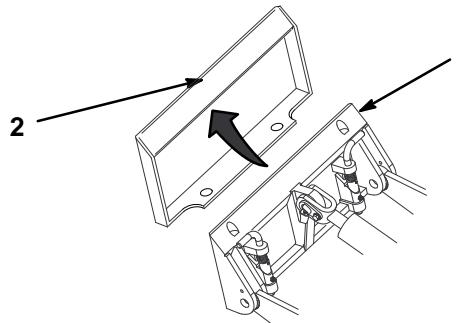

Figure 2
4. Position the mount plate into the upper lip of the receiver plate on the drive head (Fig. 2).